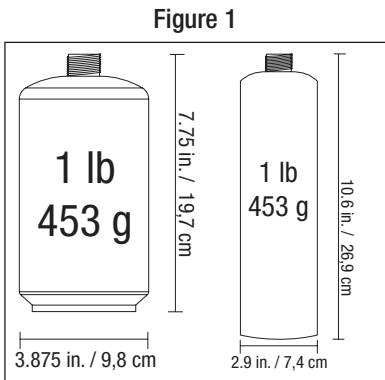

Figure 2
1. Make sure the control knob is in the "OFF" position (Figure 2).
1. Turn the control knob to the "OFF" position. (Figure 2).
2. Make sure control knobs are "OFF" position (Figure 2).
4. All control knobs must be in the "OFF" position (Figure 2).
1. Turn control knob to the "OFF" position (Figure 2).